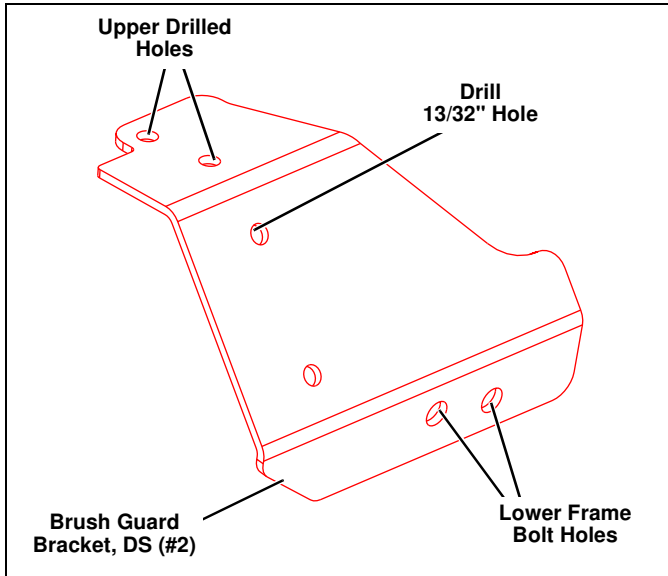

Figure 3
- A third hole will need to be drilled on the back driver side of the brush guard. Set the Driver Side Brush Guard Bracket (#2) onto the back of the brush guard. Align the two upper drilled holes and two lower frame bolt holes. Mark, center punch, and drill a 13/32" hole on the back side of the Brush Guard. (See Figure 3.)